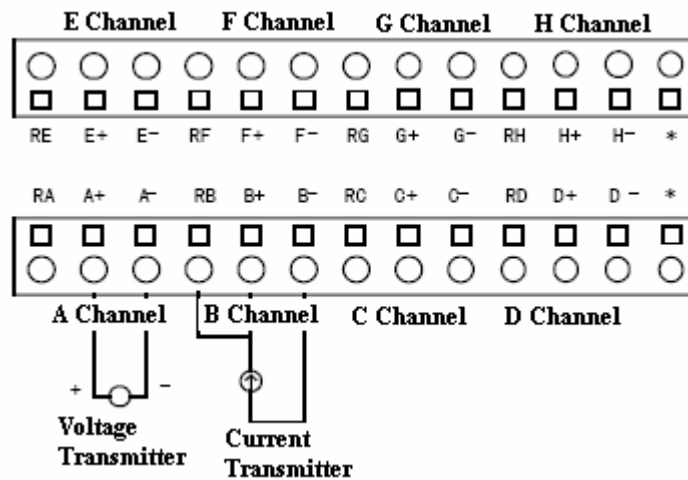

Figure 3-2-24 LM3313 Terminal Definition & Wiring
- Input signal can be either voltage or current or signals. In Figure 3-2-24, when input signal is voltage signal, A+ connects the positive end of voltage transmitter, and A- connects its negative end. When input signal is current signal, please short connect RA and A+;